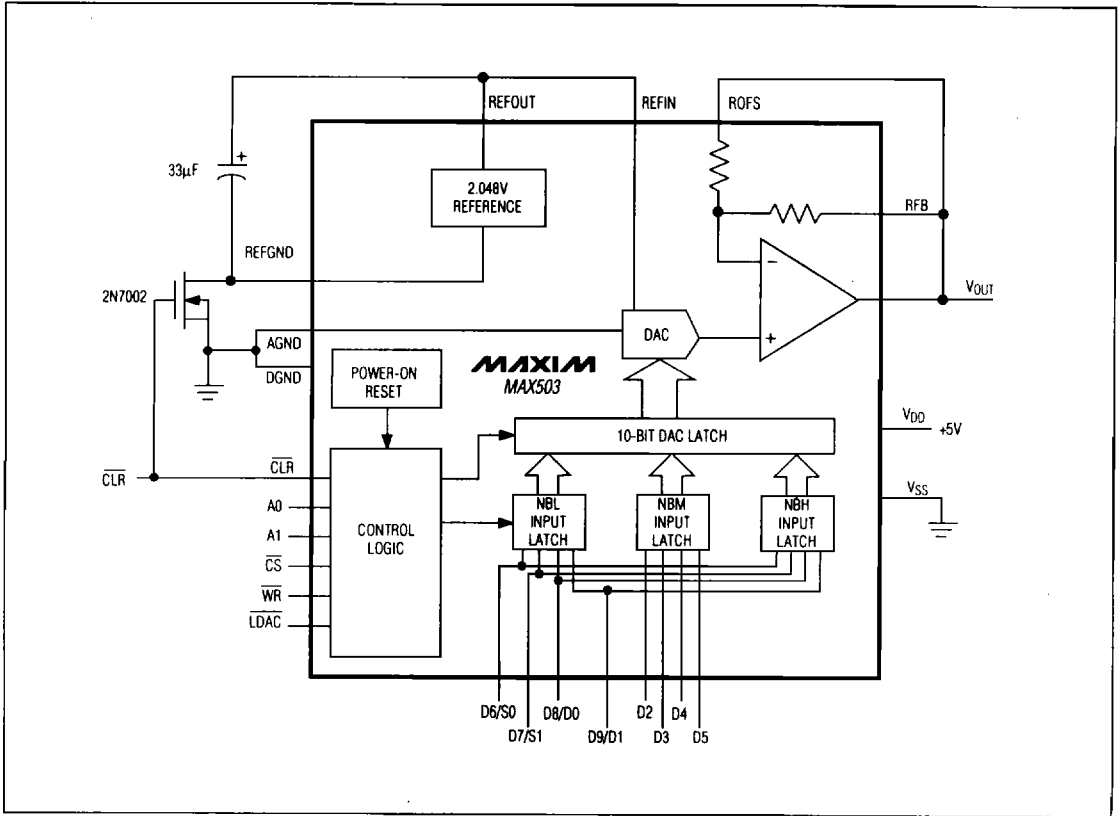

Figure 3. Low-Current Shutdown Mode
An additional 110µA of supply current can be saved when the internal reference is not used by connecting REFVDD to VDD. A low on-resistance N-channel FET, such as the 2N7002, can be used to turn off the internal reference to create a shutdown mode with minimum current drain (Figure 3). When CLR is high, the transistor pulls REFVDD to AGND and the reference and DAC operate normally. When CLR goes low, REFVDD is pulled up to VDD and the reference is shut down. At the same time, CLR resets the DAC register to all 0s, and the op-amp output goes to 0V for unity-gain and G = 2 modes. This reduces the total single-supply operating current from 250µA (400µA max) to typically 40µA in shutdown mode.
In order to provide hardware and software compatibility with the 12-bit MAX530, the MAX503 employs a 12-bit digital interface. As shown in Figure 3, there is actually a 12-bit input latch, and therefore 12 bits of data should be written. The two least significant bits (S1 and S0) are sub-LSB, and must always be 0s. Designed to interface with 4-bit, 8-bit, and 16-bit microprocessors (μPs), the MAX503 uses 8 data pins and double-buffered logic inputs to load data as $4 + 4 + 4$ or $8 + 4$. The 12-bit DAC latch is updated simultaneously through the control signal $\overline{\text{LDAC}}$. Signals A0, A1, $\overline{\text{WR}}$, and $\overline{\text{CS}}$ select which input latches to update. The 12-bit data is broken down into nibbles (NB); NBL is the enable signal for the lowest 4 bits (S0, S1, D0, D1), NBM is the enable for the middle 4 bits, and NBH is the enable for the highest and most significant 4 bits. Table 2 lists the address decoding scheme.